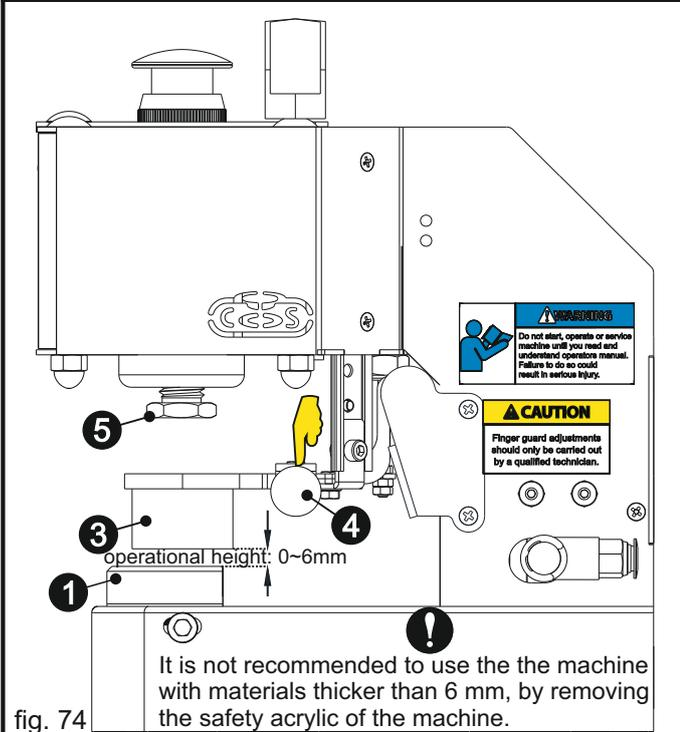

fig. 74
Pull down the manual start arm (4) slowly. Though the acrylic safety guard (3) gets closer than 6 mm to the lower die holder (1), if the die adapter (5) does not move down, then follow the procedures illustrated in (fig. 74) after double checking the machine is connected to air source and there is pressurized air in the system.